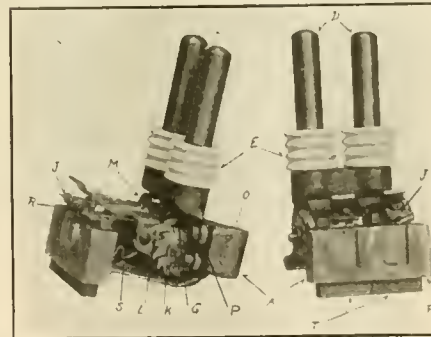

FIG. 31. BRUSH HOLDER.
important parts of the railway motor and the general construction is shown by Fig. 31. As the name implies, this part of the motor is to carry the brush "T" which is in contact with the commutator and through which current flows into and out of the armature coils. Brushes are blocks of carbon or graphite which fit the holder "A" snugly but not tightly. The brushes can move up and down vertically but should not be loose in the holder.
A. Yes. These brush-holders must be exactly located so as to bring the brushes to exactly the neutral points. To secure this, the clamps which hold the brush-holders are located by template. At the same time these holders must be insulated from the clamps and this is done as follows:—Referring to Fig. 31 the main casting (A) is fitted with two rods about $\frac{3}{8}$ in. to $\frac{1}{2}$ in. diameter, over which are placed mica tubes. To protect this insulation a thin brass tube (D) is placed over the mica. Just previous to assembling the brass tubes the corrugated porcelain insulators (E) are put in place and the whole sealed by an insulating compound. The corrugated insulators are to increase the creepage distance from the holder, which has the full voltage, to the brass sleeves which is ground. With this method of clamping the whole holder can be moved up and down and proper clearance obtained between the commutator and the face (F).
A. To get proper contact between the brushes and the commutator it is necessary to maintain a pressure on the brushes. This is accomplished by the spiral clock spring (G) made of phosphor bronze or of spring steel, which transmits its pressure to the brush through the hammer (J). Different pressures are required for different conditions and the spring tension can be adjusted by the ratchet (K) and pawl (L). To prevent heating of the spring, and thus loss of tension, a copper braid, called a shunt (M) is provided which conducts the current around the spring or shunts it. One end of this shunt is fastened to the hammer by the rivets (R) and the other to the main holder by rivets (S). The wire which carries the current to the holder